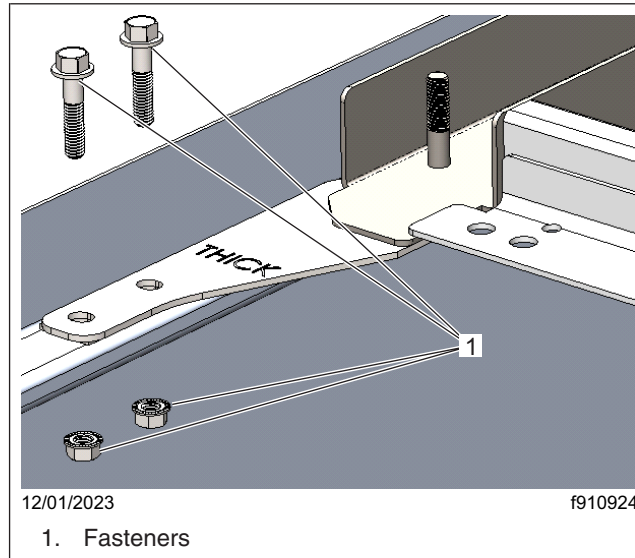

Fig. 2, Removing the Rear Wall Bolts and Nuts
5. Use a 9/16-inch socket and wrench to remove the two rear wall bolts and nuts. See Fig. 2.